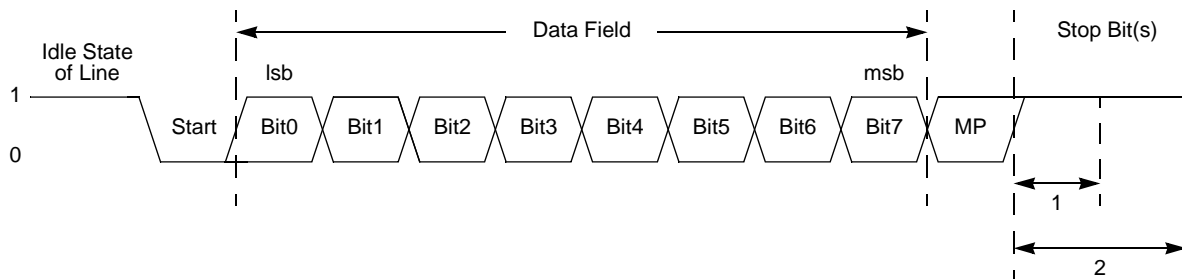

Figure 12. UART Asynchronous MULTIPROCESSOR Mode Data Format
The UART has a MULTIPROCESSOR (9-bit) mode that uses an extra (9th) bit for selective communication when a number of processors share a common UART bus. In MULTIPROCESSOR mode (also referred to as 9-Bit mode), the multiprocessor bit (MP) is transmitted immediately following the 8-bits of data and immediately preceding the Stop bit(s) as illustrated in Figure 12. The character format is: